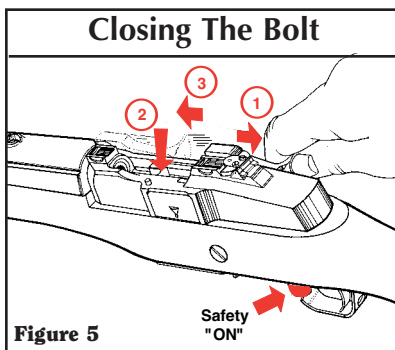

Figure 5
2. With an empty magazine in place, draw the slide handle fully to the rear and hold it there. Then, while holding the slide handle, depress the magazine follower slightly with the thumb, remove the thumb, and then allow the slide to go forward. (See Figure 5)